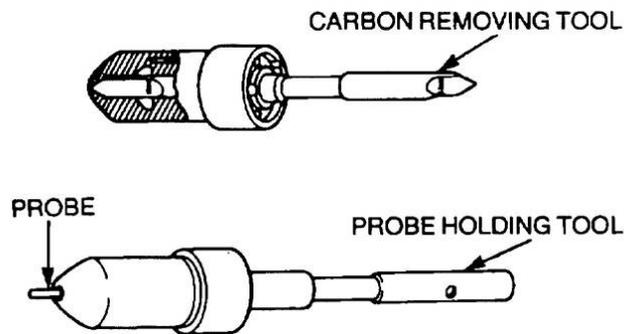

Figure 142 Cleaning the Nozzle Valve Seat
- c. Using the tools provided in the cleaning kit, remove the carbon from the valve seat and the main fuel outlet (Figure 142).